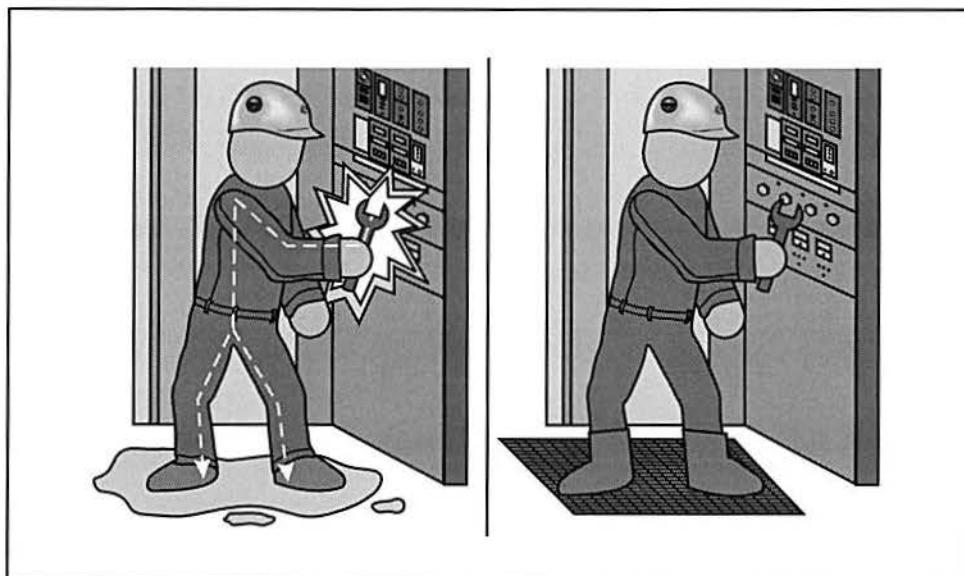

Figure 31. Do Not Work on Wet Floors
- **Do not work on wet floors.** Water decreases the resistance between the body and ground, increasing the possibility of severe shock, as shown in figure 31. It also increases the possibility of slips. Try to work on a rubber mat or an insulated floor when possible, as also shown in figure 31.